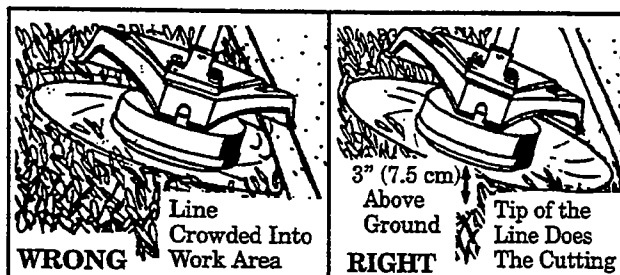

Figure 10
- The tip of the line does the cutting. You will achieve the best performance and minimum line wear by not crowding line into cutting area. The right and wrong ways are shown in Figure 10 .